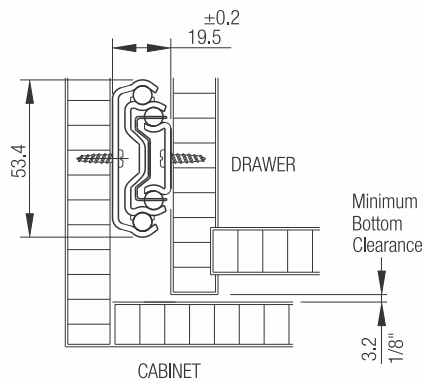

Fig.1
1. To install gap per side 19.5 mm is required between cabinet and drawer (Refer Fig. 1).